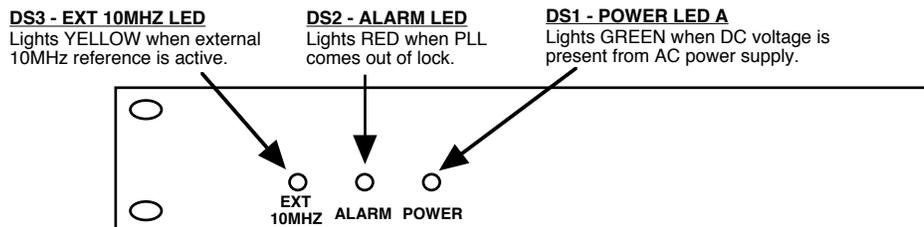

FIGURE 2.2 2116-114 Front Panel Controls and Indicators
Figure 2.2 shows the front panel indicators.
4. Be sure DS1 (green, DC Power) is on and DS2 (red, Alarm) is off (Figure 2.2).
6. If EXT is selected or AUTO is selected and there is a 10MHz, 3 dBm signal at J2, check that DS3 (yellow, Ext 10MHZ) is on (Figure 2.2).